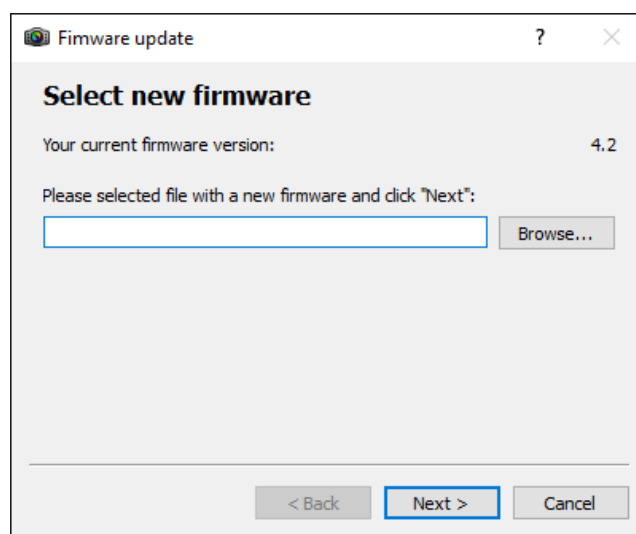

Figure 38 – Firmware update selection window
2. Click the "Browse..." button, as shown in Figure 38, and select the desired firmware update file, in accordance with the device chosen (.bin file extension), and Click the "Next >" button.